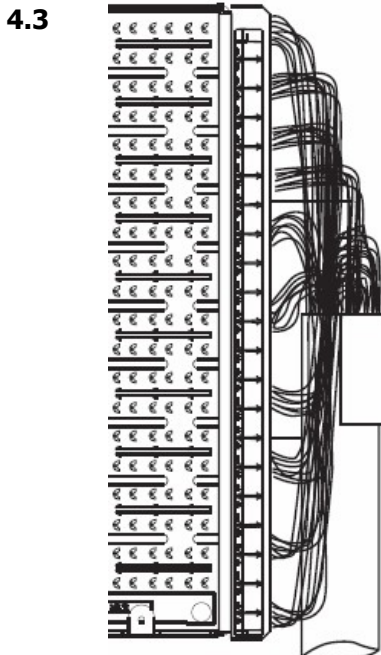

Figure 4
**4.2** Feed 10-pair group of cable stub wires through each of the ten vertical fanning holes (Figure 4).